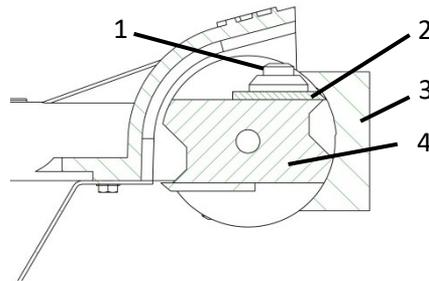

Fig. 13 Knife adjustment
- > Loosen the knife screw (1 - Fig.13).
- > Push the knife (2 – Fig.13) all the way back.
- > Place the knife gauge (3 – Fig.13) on the cylinder (4 – Fig.13) so that it rests on the two bearing surfaces of the cylinder at the top and bottom.